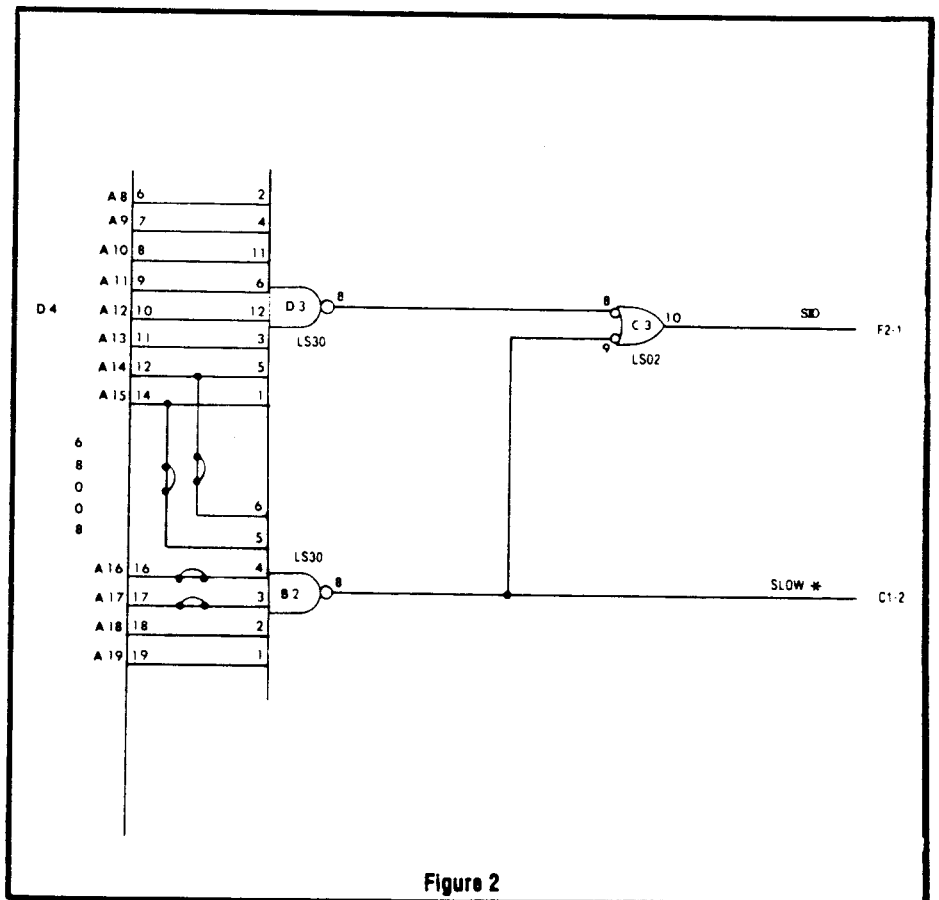
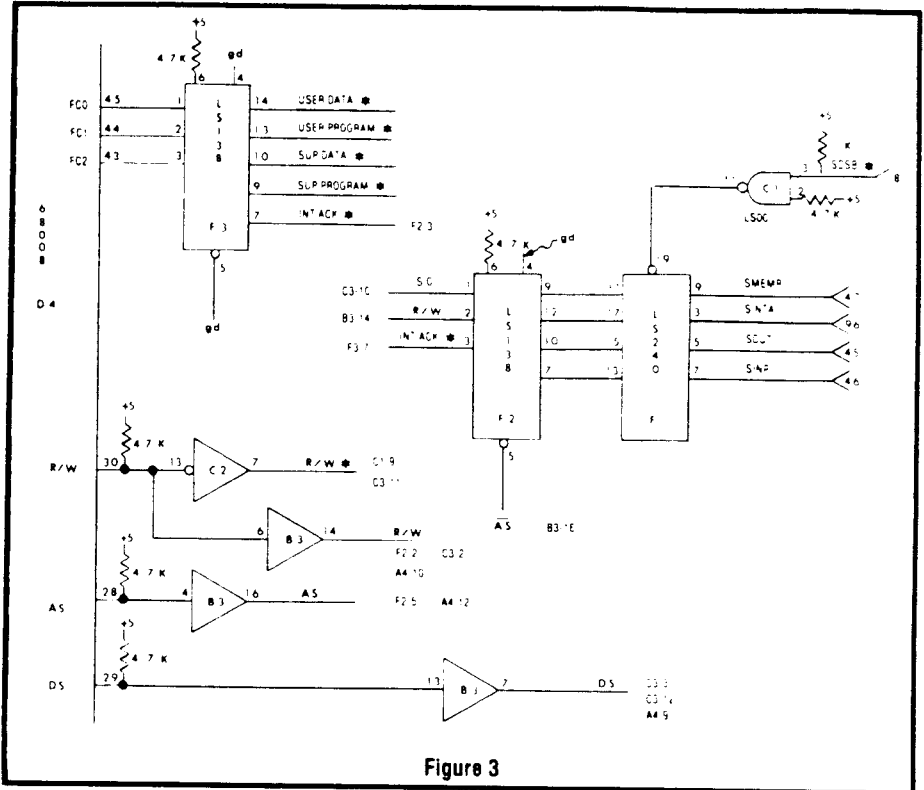
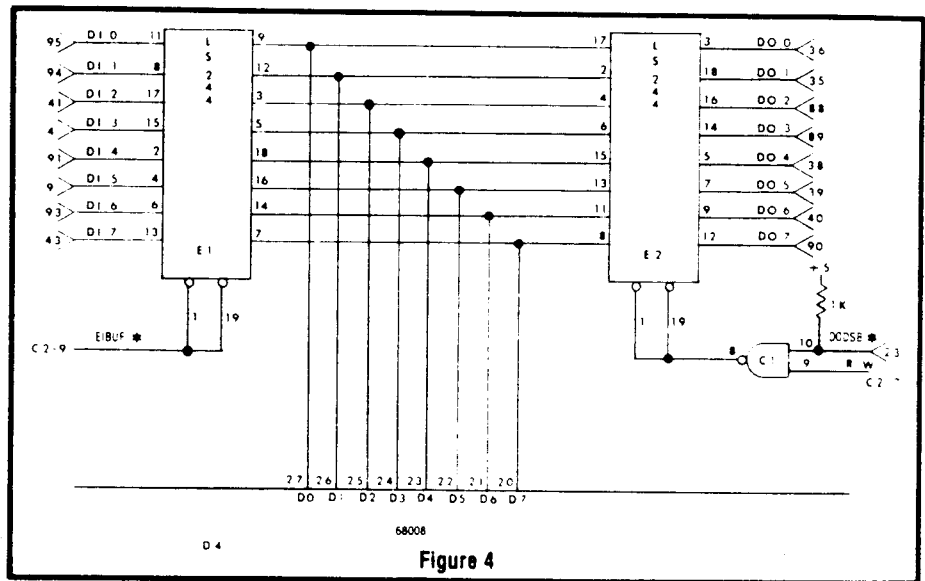

Figure 2
Figure 3
Figure 4
**Input and output.** The 68008 has no special input or output instructions, and no part of its address space is set aside for I/O. The signal SIO (see Figure 2) is generated whenever address lines A8 to A19 of the 68008 are all high. Assertion of SIO will be necessary for the assertion of SINP or of SOUT (see Figure 3). The addresses \$FFF00 to \$FFFFF will be set aside to be used as I/O ports.
**Data Out Lines DO0 to DO7.** The lines DO0 to DO7 (see Figure 4) are driven by an LS244 whose inputs are tied to D0 to D7 of the 68008. This LS244 drives DO0 to DO7 whenever W (see Figure 3) on the 68008 is asserted and DODSB is negated.
**Data In Lines DI0 to DI7.** The lines DI0 to DI7 (see Figure 4) are inputs to an LS244 whose outputs are tied to D0
**Status Lines SINP, SOUT, SMEMR, SINTA.** At the beginning of each bus cycle the 68008 tells us what it wants to do during the next bus cycle by placing a value of 0 to 7 at its function code outputs FC0 to FC2. The only one used on this board is interrupt acknowledge denoted by INT ACK (see Figure 3).
**SLOW and PHANTOM.** Assertion of either PHANTOM or SLOW (see Figure 9) forces the insertion of wait states. SLOW (originates in Figure 2) is dependent upon placement of jumpers to determine which of A14 to A17 must be high in order to contribute to the assertion of SLOW. Assume A14, A15, A16, A17 are all connected (i.e. no trace under a jumper has been cut or if it has, jumpers reconnect the cut traces). Memory references to addresses with A14 through A19 all set to 1 will have wait states. The duration of the wait is determined by A, B, C. All other memory references run at the maximum speed of the processor. Thus memory references from \$00000 to \$FC000 run at maximum speed and any reference to the 16K of address space from \$FC000 to \$FFFFFF has the assertion of DTACK delayed by an amount determined by A, B, C. The slow memory space can be increased to 32K by cutting the A14 trace, to 64K by cutting the A14, and A15 traces etc. Whenever PHANTOM is asserted memory references will have wait states, again the number determined by A, B, C.